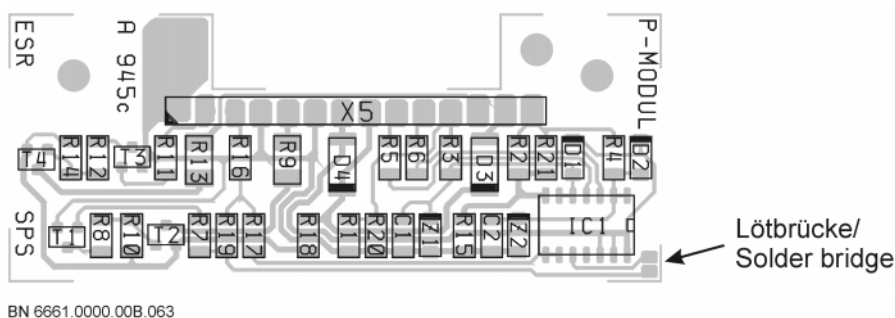

Fig. 17: Solder bridges on the P1 and P2 modules
- connect the two soldering areas labeled “Be” on the polarity module, see fig. 17.